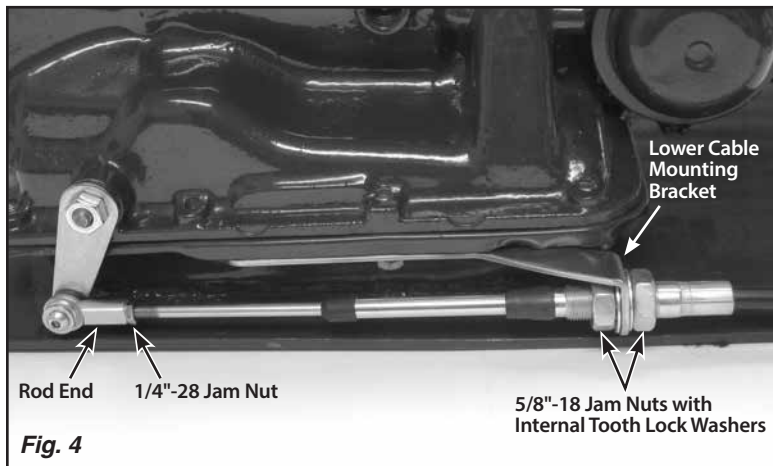
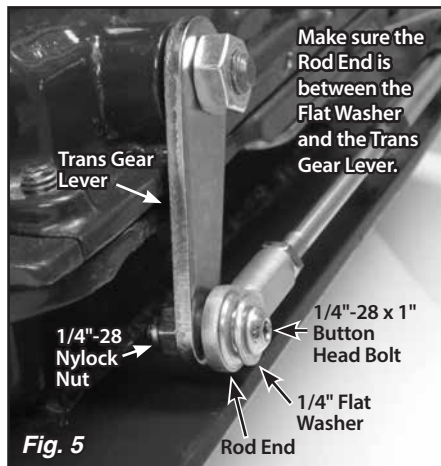

Fig. 4
Fig. 5
Step 13: The inner cable needs to be fully extended all the way out at the transmission end when it is attached to the trans gear lever. Pull the inner cable out as far as it will go. Adjust the position of the lower cable mounting bracket, the position of the cable itself in the bracket, and/or the rod end so that the hole in the rod end lines up with the hole in the trans arm with the inner cable fully extended and the transmission in Park. Attach the rod end at the transmission to the trans gear lever. **Fig. 4** Make sure that the rod end is sandwiched between the trans gear lever and the flat washer. **Fig. 5**